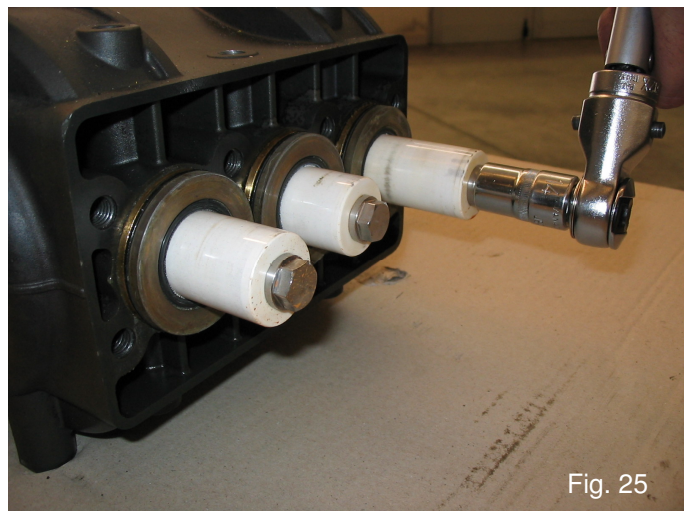

Fig. 25
- A) - Loosen and remove the plunger screw 1, Fig.25.